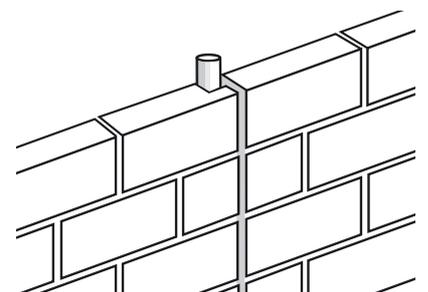

Fig. 8
- Chases, recesses or openings (see Figure 8).